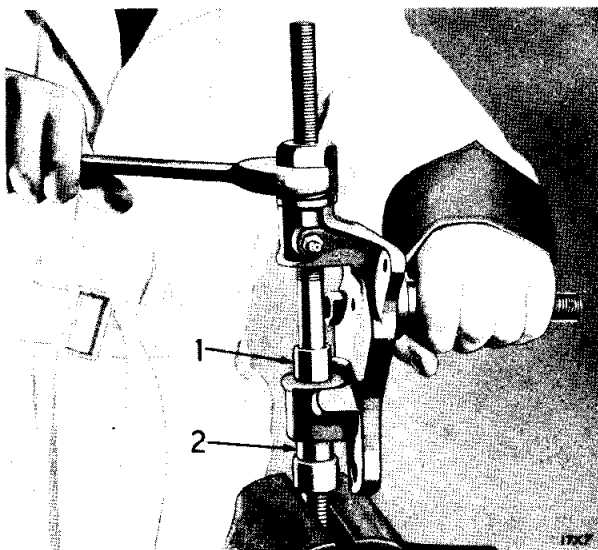

Fig. 10—Removing King Pin Bushing (Reverse Elliott Type Axle)
- (4) On all models (except B-4-B, B-4-C and B-4-D), remove the steering knuckle arm from the steering knuckle.
- (5) Remove king pin locking screw or pin (there are two locking screws on some models).
- (6) Remove king pin oil seal plug (steel disc) by driving a punch down into it and prying the seal up and out of the steering knuckle (on all models except B-4-T and B-4-V). On those trucks, the king pin oil seal plug (steel disc) is removed by removing the lock ring and lifting out the oil seal.
- (7) Drive king pin downward, forcing out the lower oil seal plug. A soft drift should be used for driving against the top end of the king pin.
- (8) Remove king pin bushings. See Figures 10 and 11.